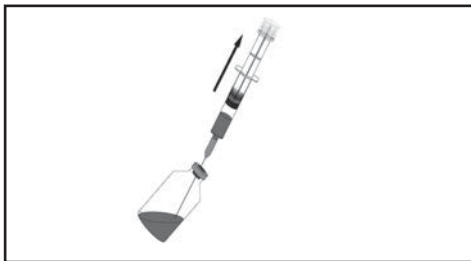

Figure 2a.
- 2.1 Transfer required amount of drug from its container to the syringe by drawing solution into syringe via the attached sterile needle (Figure 2a). Leave a small air bubble (1 ml or less) in the syringe for better mixing.